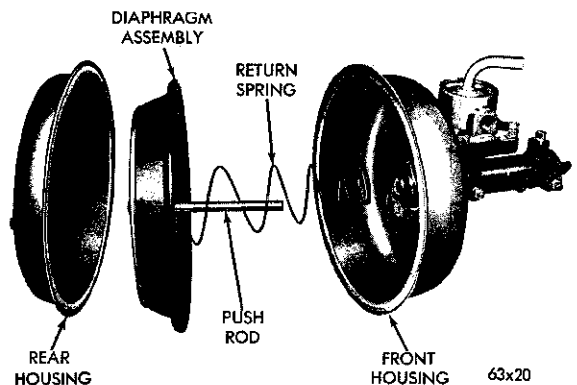
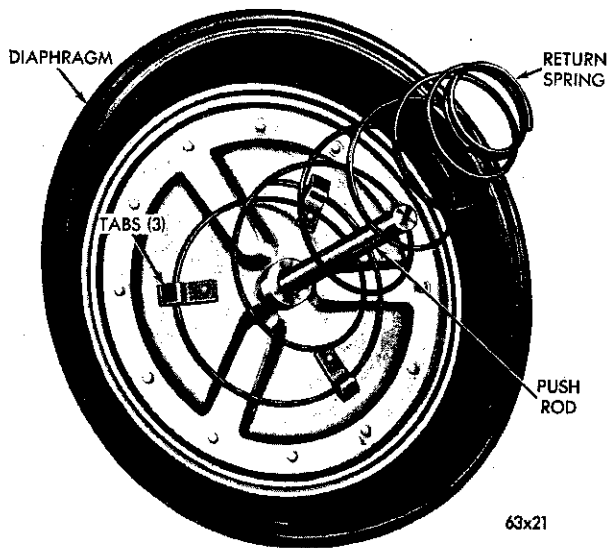

Fig. 38—Remote Control Booster (Disassembled)
Fig. 39—Piston, Rod and Return Spring
(3) Pull outward on the diaphragm to remove the power piston assembly (diaphragm, push rod, and diaphragm return spring) (Fig. 38). Bend back the three tabs on the diaphragm plate to disengage the diaphragm return spring. Remove the lock nut from the end of the push rod and pull the push rod out of the diaphragm hub (Fig. 39).